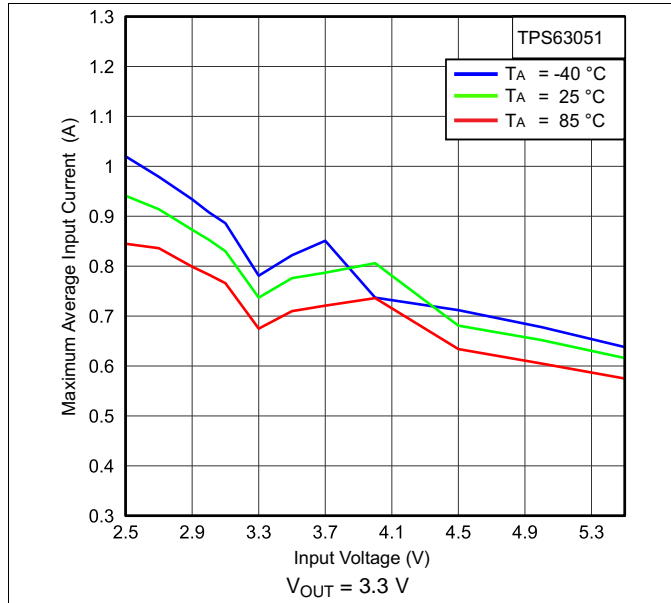
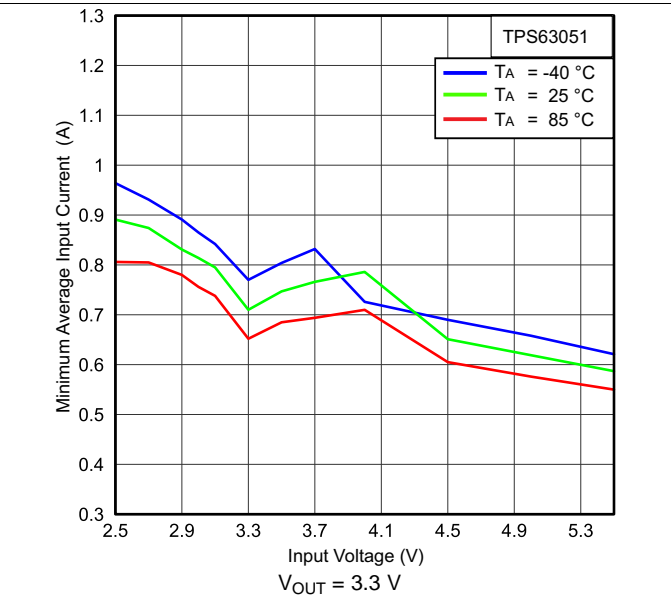

Figure 1. Maximum Average Input Current vs Input Voltage
Figure 2. Minimum Average Input Current vs Input Voltage
(1) For minimum and maximum output current in a specific working point see Figure 1 and Figure 2; and Equation 1 through Equation 4.
(2) Conditions:  $T_J = -40^\circ\text{C}$  to  $85^\circ\text{C}$
(3) Conditions:  $f = 2.5\text{ MHz}$ ,  $L = 1.5\text{ }\mu\text{H}$ ,  $C_{OUT} = 10\text{ }\mu\text{F}$
The TPS6305x devices have an internal user programmable current limit that monitors the input current during start-up. This prevents high inrush current protecting the device and the application. During start-up the input current does not exceed the current limit that is set by  $I_{LIM0}$  pin and  $I_{LIM1}$  pin. Depending on the logic level applied at these two pins, switching between four different current limit-levels is possible. The variation of those values over input voltage and temperature is shown in Figure 1 through Figure 2. Adjusting the soft-start time further using the soft-start capacitor is possible.
Given the curves provided in Figure 1 through Figure 2, calculating the output current in the different condition in boost mode is possible using Equation 1 and Equation 2 and in buck mode using Equation 3 and Equation 4.
- $I_{IN}$  = Minimum average input current (Figure 2 to Figure 2)